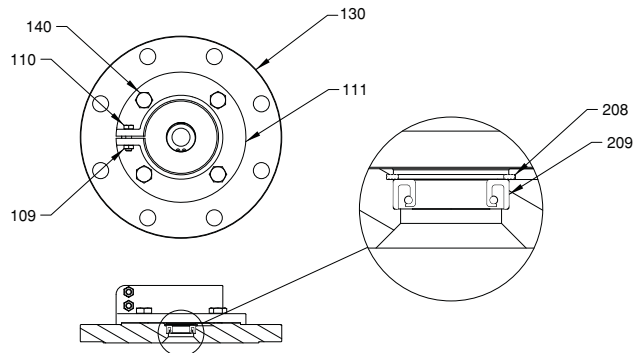

Figure 6 – “L” Units
2.8 “L” Units – Closed Tank, Flange Mounted Lip Seal Module - The mixer housing module mounts in the bore of the Pedestal (111) and is secured by tightening the two hex head cap screws (110) and hex nuts (109). The pedestal (111) bolts to the mounting flange (130) with four hex head cap screws (140). Tank contents are sealed off by the flange mounted lip seal (209) which is retained by retaining ring (208). Refer to Figure 6.